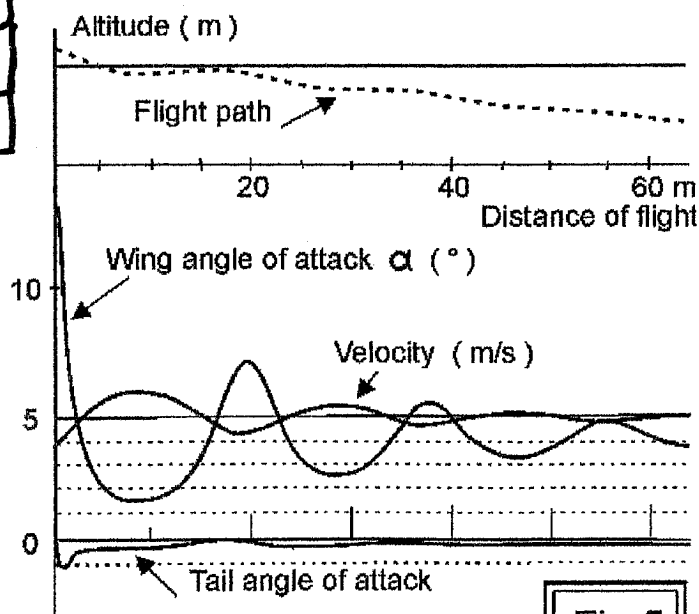

Fig.5
The arrival of powerful computers has enabled a new method for studying questions of stability. Unlike the previous methods, which rejected trajectory descriptions, we can now calculate with the aid of the three equations of motion, using a stall as an initial condition, the attitude the model will have a little later - a step of 0.05 seconds for example. From there a new attitude can be described, step by time step. The results at these instants allow us finally to reconstruct entire trajectories and to draw curves for the variations of speed, angles of attack, attitudes, etc. See Fig. 5 (ref. 7, 8, 9).